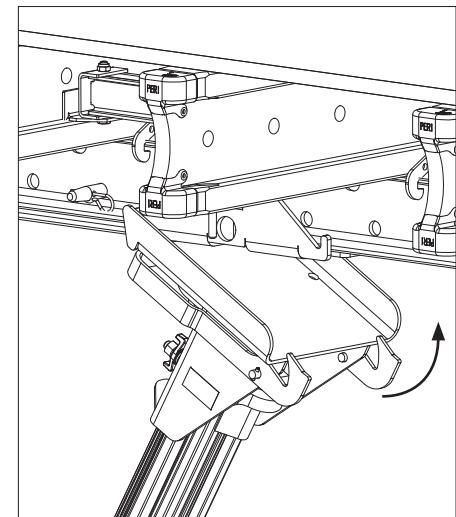

Fig. A2.05b
4. Pivot the MULTIPROP MP (11) until it is in a vertical position. (Fig. A2.05b)
- The retaining clip (4.3) engages the Table Head Centre Part VD (3) (audible click).